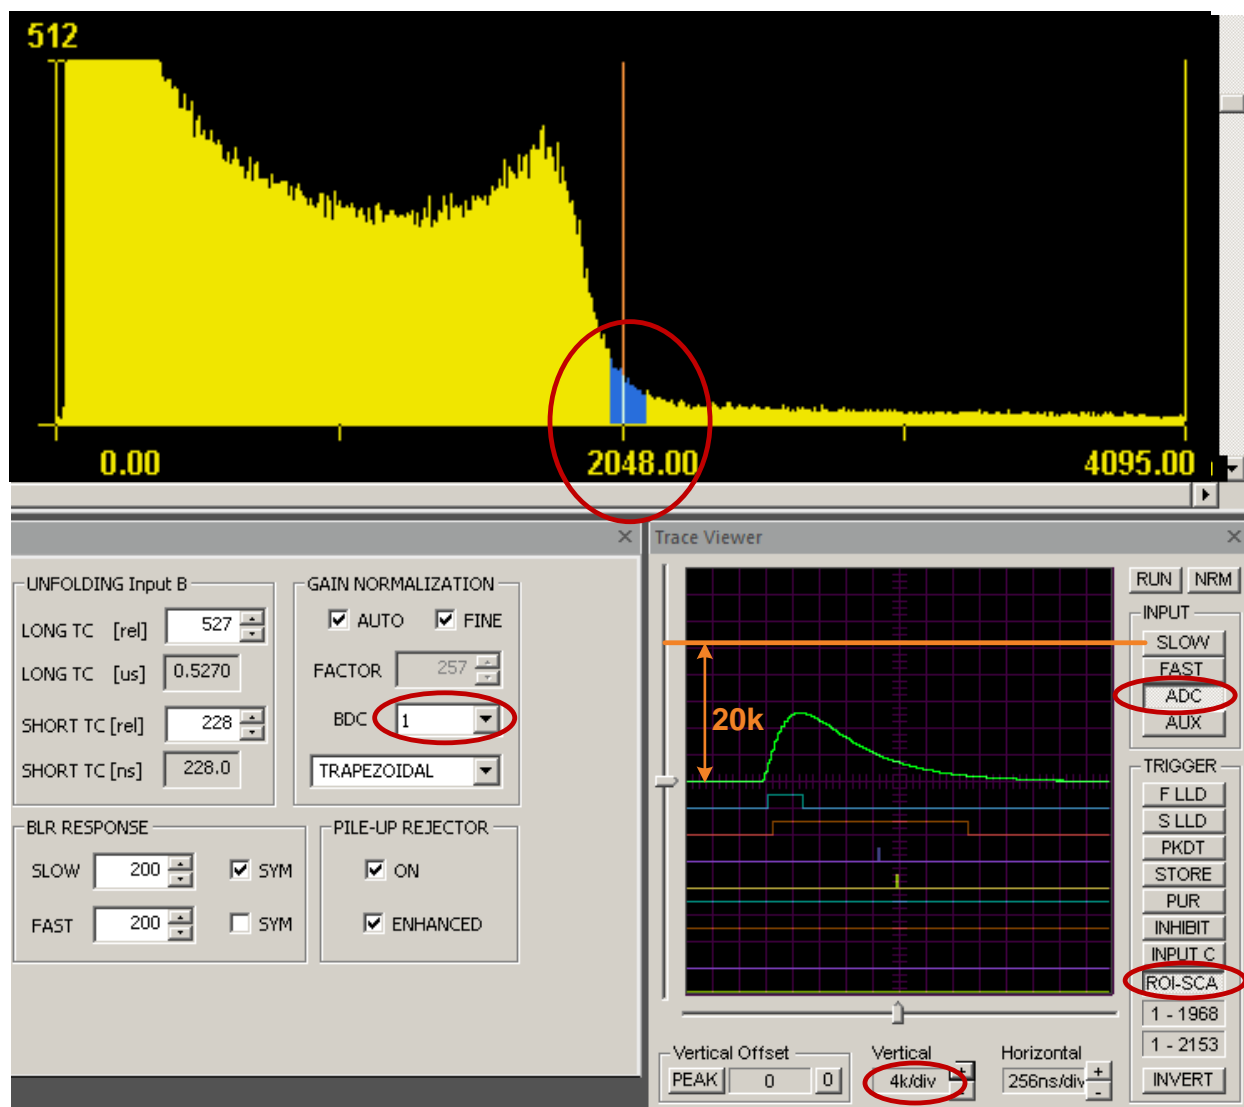

Figure B1. BDC not optimally adjusted
- 2) Acquire S1 spectrum at 4096 channel soft size and adjust the gain so that there are well above the half of the full spectrum size (4096) (Fig B1).